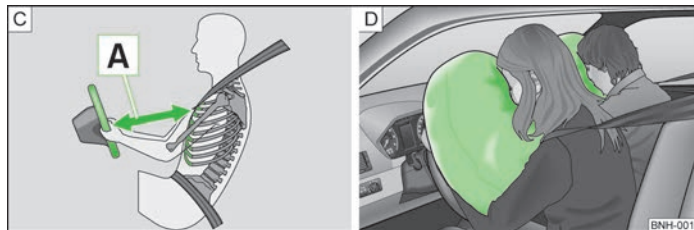

Fig. 123 Safe distance to steering wheel/inflated airbags.
If the airbags are deployed, the airbags are filled with a propellant gas and inflated in front of the driver and front passenger » Fig. 123 - [D]. The forward movement of the driver and of the front passenger is cushioned when they make contact with the fully inflated airbag and the risk of injury to head and chest is thus reduced.
- For the driver and front passenger, it is important to maintain a distance of at least 25 cm to the steering wheel or dashboard **A** » Fig. 123. Not maintaining this minimum distance will mean that the airbag system will not be able to properly protect you - hazard! The front seats and the head restraints must always also be correctly adjusted to match the body size of the occupant.